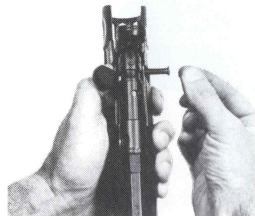

Figure 16A
8. Press out and remove the forepiece pin (see Figure 16A)